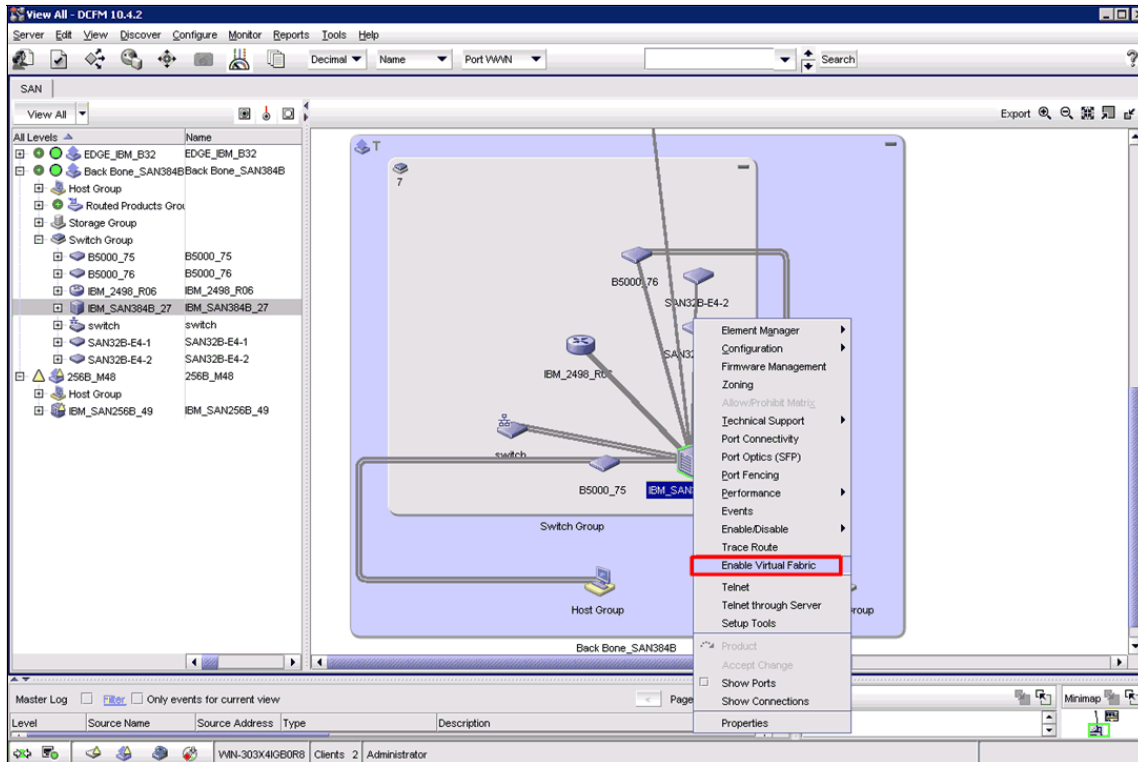

Figure 11-2 Enable Virtual Fabric
To enable virtual fabrics (VF) all you need is to do is to select the switch that VF is going to be configured on, and then right click to get the drop down menus for the switch and select the Enable Virtual Fabric option, as shown in Figure 11-2.